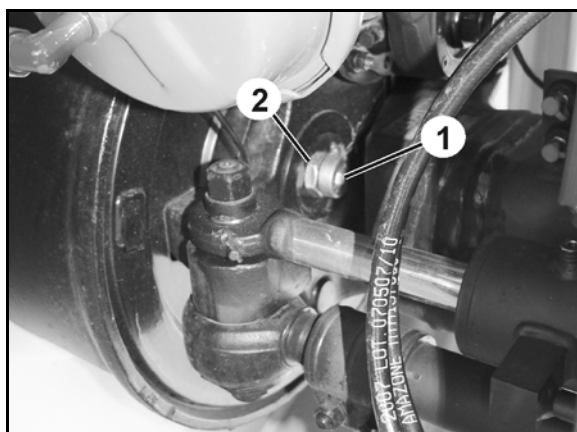

Fig. 48
2. Tighten the locking screw (Fig. 48/1) in the brake drum and secure with a lock nut (Fig. 48/2).